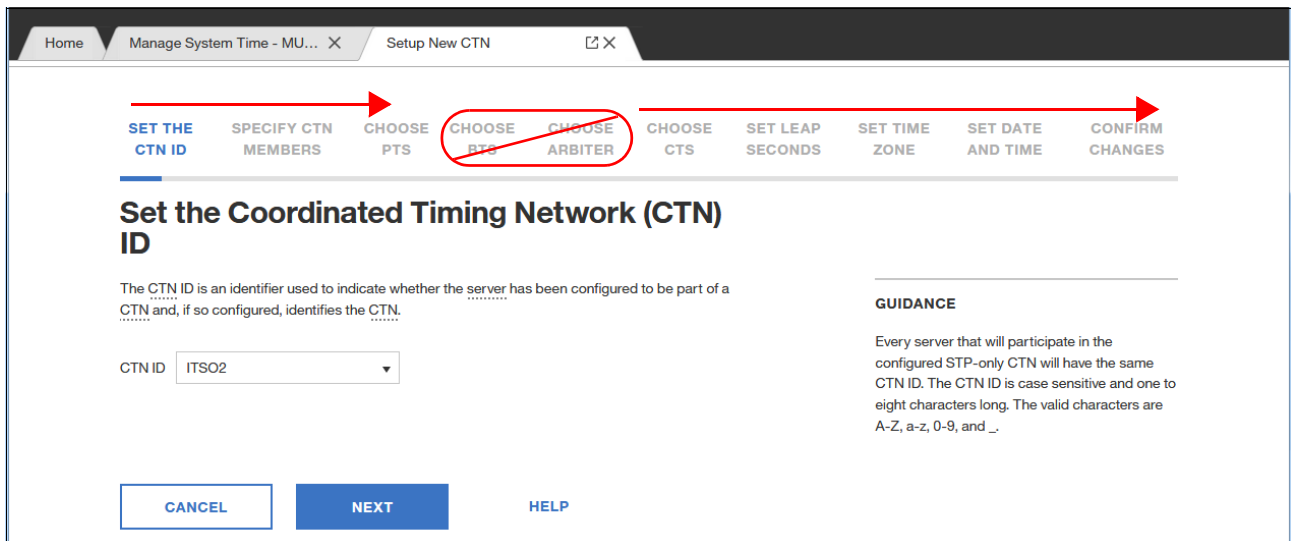

Figure 16-11 Setting up a new CTN
- We click **Setup new CTN** and start configuring the single server CTN, as shown in Figure 16-11. Because this server is a single server CTN, no Backup Time Server or Arbiter are available for this configuration.